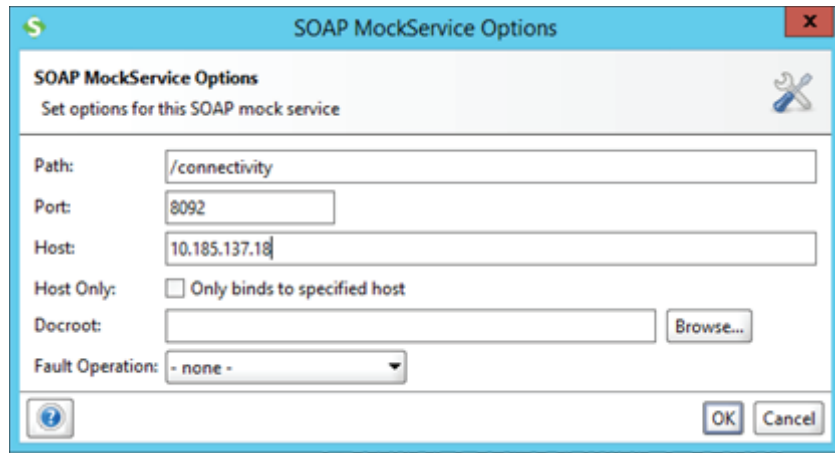

Figure 67 – SOAP UI
- a. Modify the host URL to the IP address of the server where SOAP UI is running (Figure 67).